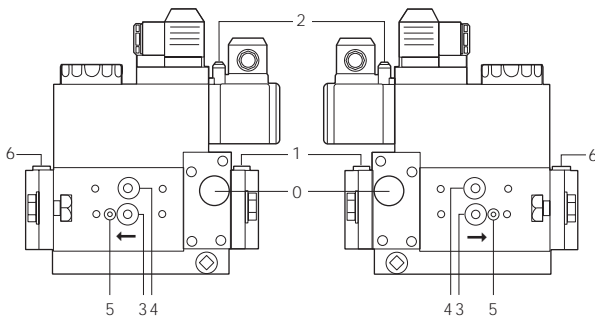
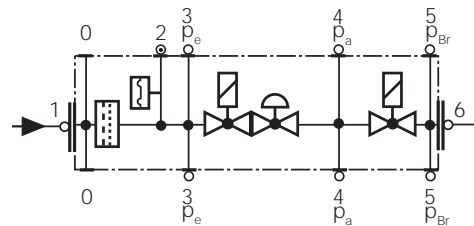

Fig. 34
Fig. 35
- Clean and check the gas filter cartridge, if necessary replace it (Fig. 34 on).
- Change the filter if the pressure difference between pressure connection 1 and 3 (Fig. 34-Fig. 35) is  $\Delta p > 10$  mbar.
- Change the filter if the pressure difference between pressure connection 1 and 3 (Fig. 34-Fig. 35) is twice as high compared to the last check.